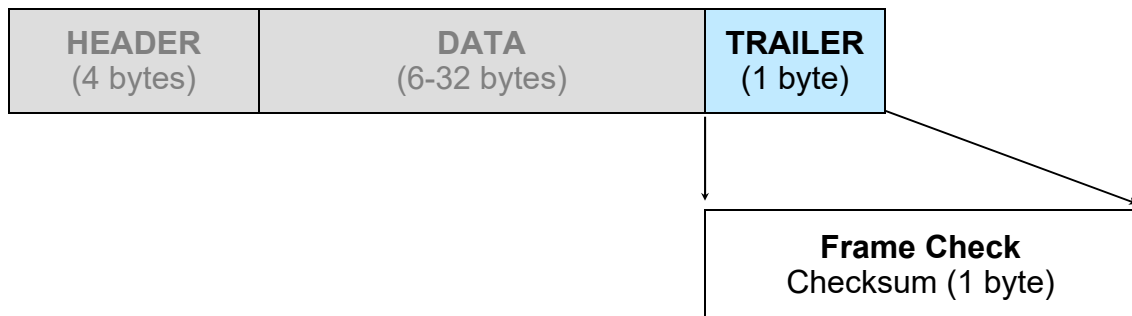

Figure 5-7: Trailer Sub-Packet
The trailer component contains only one (1) byte called the Frame Check Sequence, shown in **Figure 5-7**.